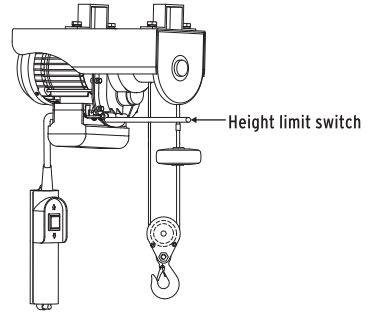

FIG.11
7. The electric hoist is built with a height limit switch (figure 11), that prevents the hook to get tangled in the spool and damage the electric hoist. We advise not to lift totally the load since it can hit some component in the electric hoist.